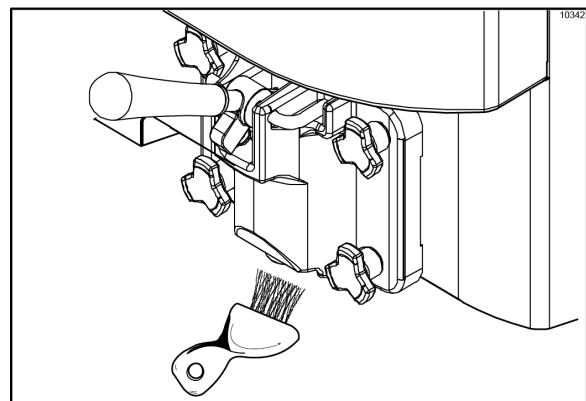

Figure 6-51
**Note:** To ensure sanitary conditions are maintained, brush each item for 60 seconds, repeatedly dipping the brush in cleaning solution. (See Figure 6-51.)